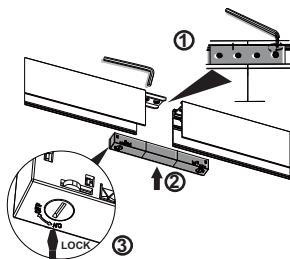

Figure 10
5. Straight continuous row mount can be done by connecting the two tracks with LAA-SUSSUR-CM01. Tighten the screws on LAA-SUSSUR-CM01 with hex key provided. Also, insert joint connector LAA-U-CE01. Turn the lock from OFF to ON position with flat head screw driver (Figure 10).